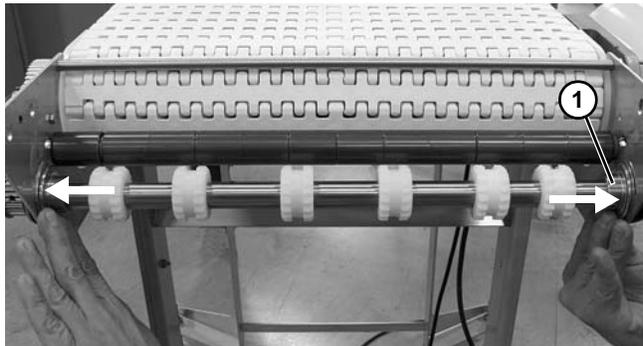

Figure 68
3. Insert drive shaft through opposite bearing (**Figure 68, item 1**) and press outward on bearings as shown.